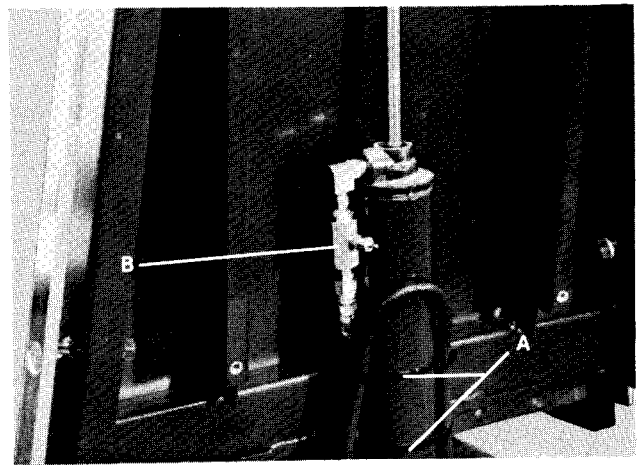

Fig. 25 Model 112 Shown
- 4) Remove (2) large nylon ties from cylinder, Item "A", Fig. 25.
- 5) Remove the (2) Hose Fittings from the defective cylinder using $9/16$ " and $7/16$ " wrenches. On Models 112 & 113 only, a $9/16$ " wrench should be used to remove the needle valve assembly from the rod end port of the defective cylinder, Item B, Fig. 25.
- 9) Connect hose fittings tightly to new cylinder. (On Models 112 & 113 install needle valve in port on rod end of cylinder, Item B, Fig. 25. Position valve parallel with cylinder body. (Valve stem should point away from table back.) Lay solenoid electric cord along side of hoses.
- 10) Install (2) Nylon Ties, Item "A", Fig. 25 on the cylinder.